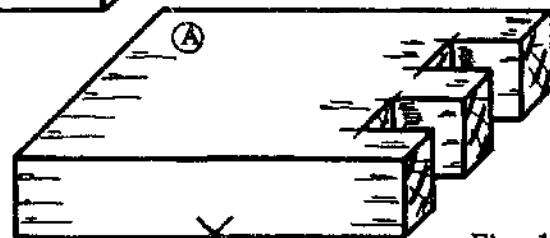

Fig. 11
- Chop out the waste from the slots, chiselling from both sides as explained in the previous step (Fig. 11).